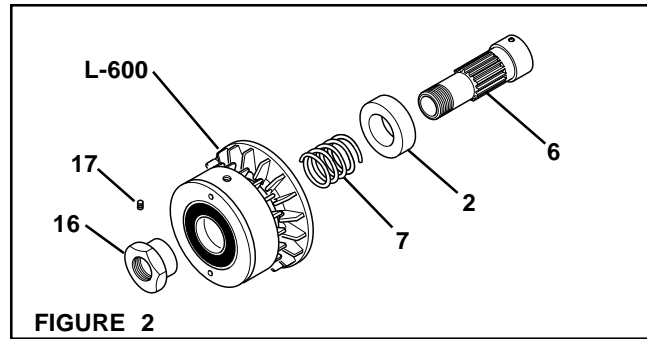

FIGURE 2
1. Loosen the two Set Screws (Item 17) and remove the Adjustment Nut (Item 16) (See Figure 2).
2. Slide the Hub (Item 6), Compression Spring (Item 7), and Spacer (Item 2) out of the L-600 (See Figure 2).